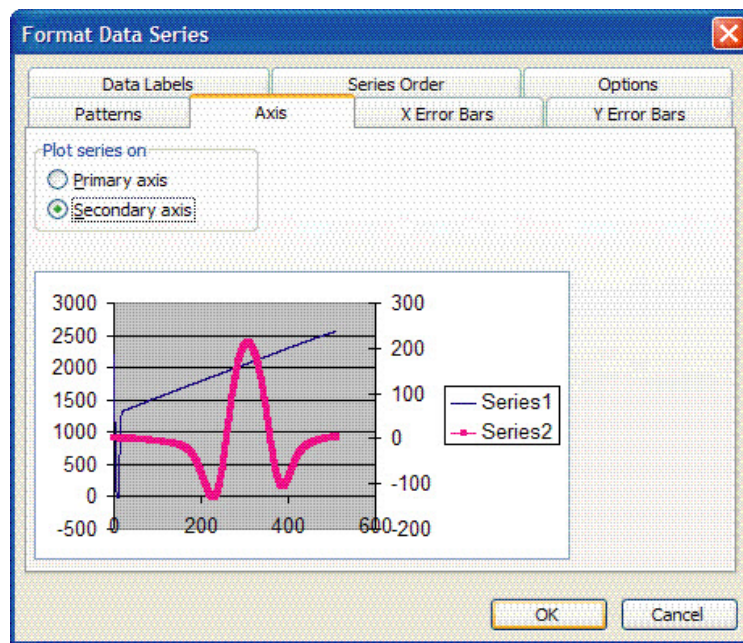

Figure 3-12 Format Data Series window
7. If the **2f** curve appears flat, double click on it to get to the **Format Data Series Window**, as shown in Figure 3-12 below. Select the **Axis** tab, and select **Plot Series on Secondary Axis**. Click **OK** to rescale the plot.